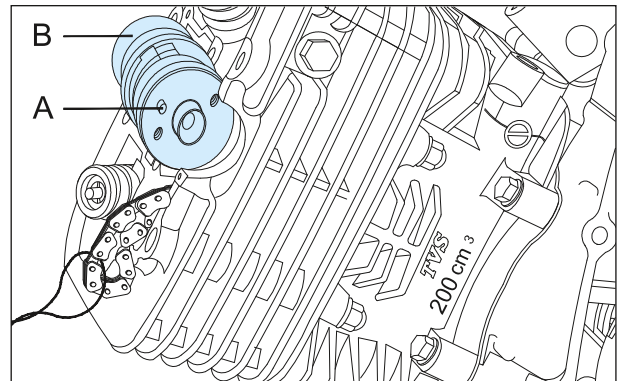

Fig. 3.56
- Remove the pin sprocket knock (A) from the camshaft complete and take out the cam shaft complete (B) from the cylinder head. (Fig. 3.56)